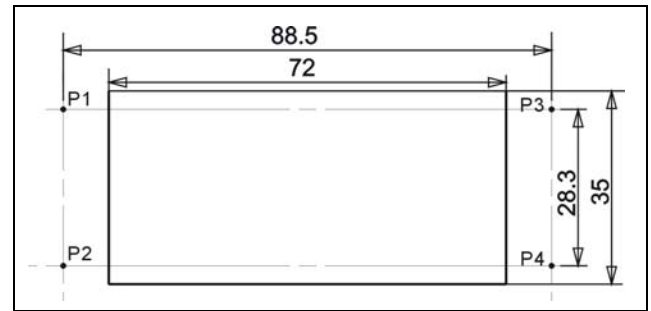

Figure 3.5 Fixing hole positioning diagram of HCS-4368SDTE /50 series flush-mounting voting unit (unit: mm)
- Cut a hole in the table according to the dimensions in figure 3.5;